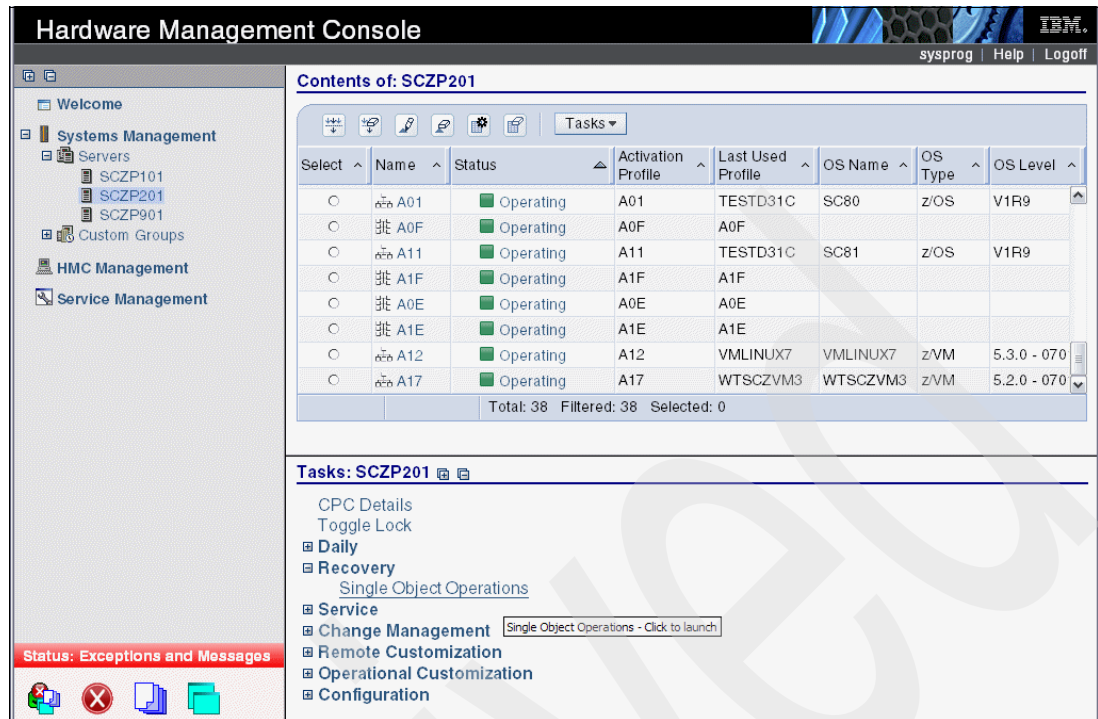

Figure 8-2 Contents and Tasks of CPCs
2. If multiple CPCs are connected to the HMC, select and click the one you want to connect to from the Servers menu in the Systems Management group. You can see the Contents area (upper right of panel) and Tasks area (lower right of panel) in tree mode, shown in Figure 8-2 on page 341.